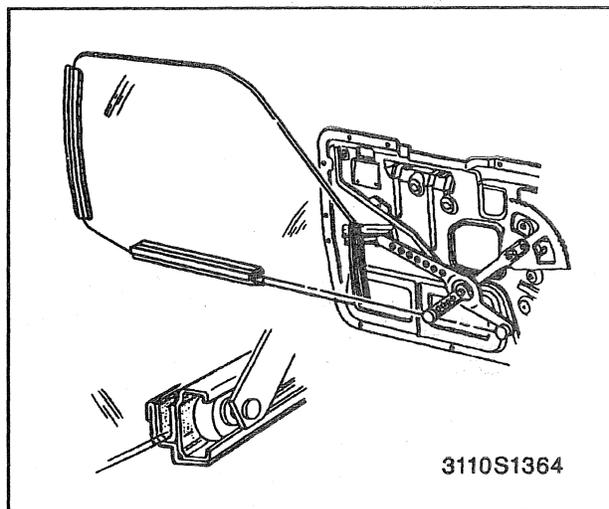

Figure 26—Inner Mounting Panel and Window Sash
8. Inner mounting panel from window sash (figure 26).
1. Inner mounting panel to window sash (figure 26).